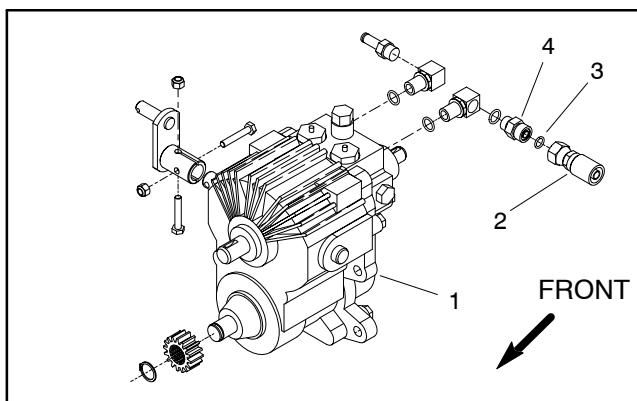

Figure 23
4. Place a drain pan under the transmission. Thoroughly clean the area around the transmission charge pump outlet (pressure) fitting (Fig. 23). Disconnect the hydraulic hose from the outlet fitting.